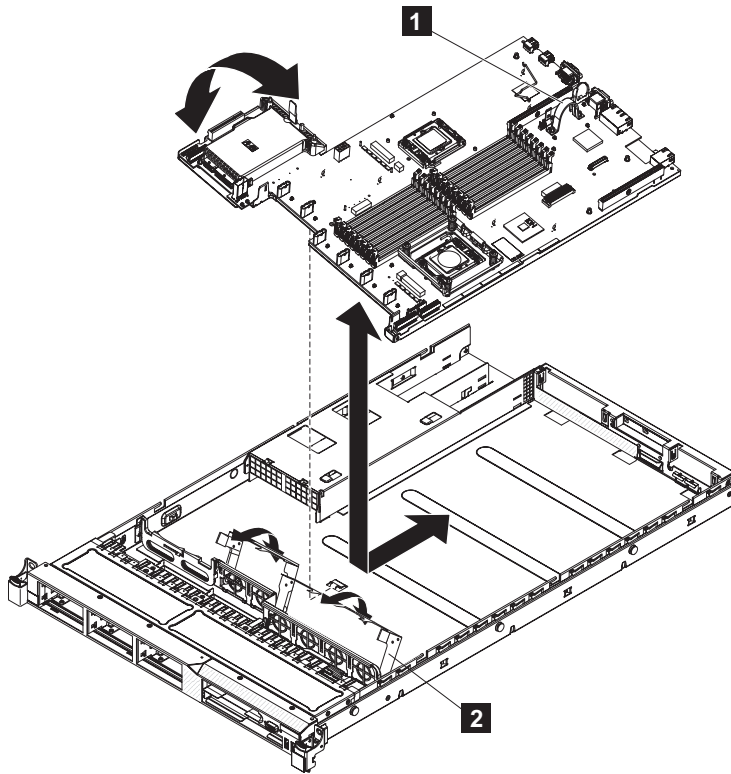

Figure 291. Removing and replacing the SAN Volume Controller 2145-CG8 or 2145-CF8 system board
2. Place the side of the system board assembly that is farther from the power supply units beneath the catches. Lower the opposite side of the system board until it is flat in the chassis. Align the rear connectors with the holes in the rear of the server and slide the system board towards the rear of the node, as shown in Figure 291 on page 290.